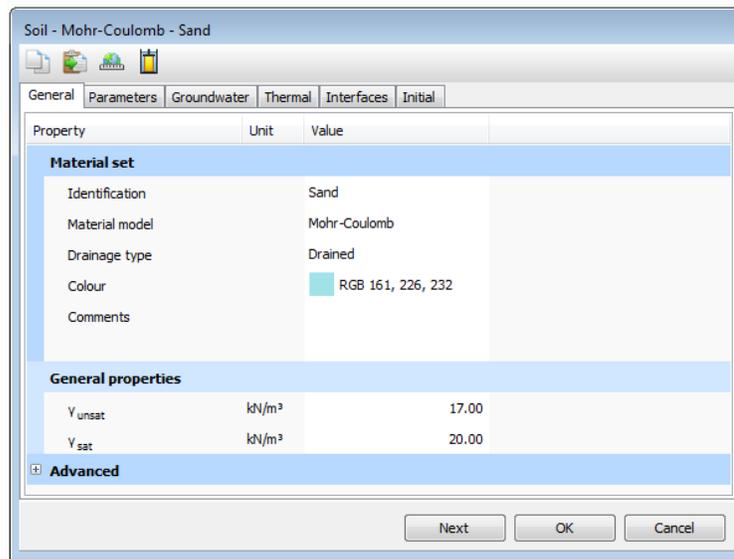

Figure 3: The **General** tabsheet of the **Soil** window
4. Enter the proper values in the **General properties** box (Figure 3 (on page 14)) according to the material properties listed in Table 1 (on page 12). Keep parameters that are not mentioned in the table at their default values.